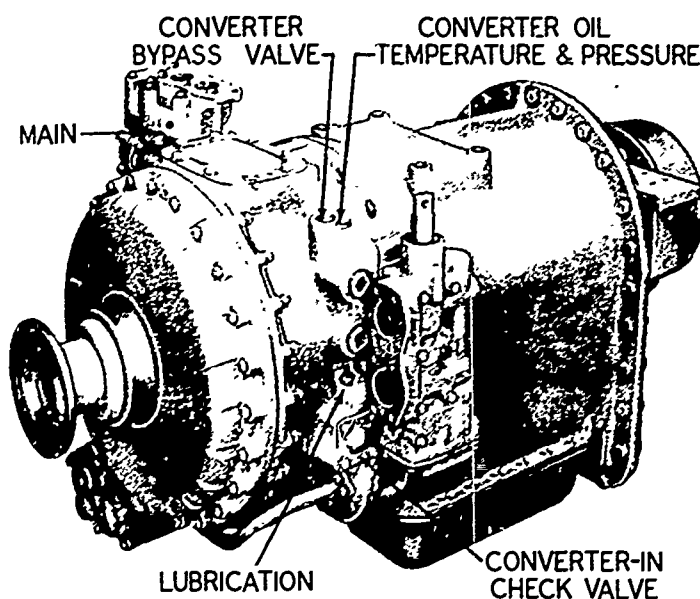

Fig. 1 Oil and temperature check points
1. Disconnect the clutch pressure gage and install a master pressure gage. The check point is located on the forward face of the main regulator valve. See Figure 1.
CHECKING LUBE OIL PRESSURE -- The lube oil pressure is checked by removing the small square head pipe plug just above the converter "IN" check valve on the converter housing and installing a pressure gage; see Figure 1.
CHECKING OIL TEMPERATURE -- Maximum converter oil temperature is 250 F. This temperature reading can be taken from the converter oil temperature gage on the instrument panel. However, a master temperature gage can be installed in place of the dash panel gage and a temperature reading taken; see Figure 1.
CONVERTER OUT PRESSURE -- The converter "OUT" pressure is checked by installing a pressure gage in the oil temperature port in the converter housing; see Figure 1. The pressure will vary from 30 psi minimum to 65 psi maximum at full throttle (top speed).
1. Main oil pressure check point is located on the front side of main pressure regulator valve, which is mounted to the top of the converter housing; see Figure 1. The dash panel clutch pressure gage sending unit is installed at this point. When checking main pressure, it is good practice to disconnect the dash panel gage and install a master gage.
2. Converter temperature check point is located on the left side of the converter housing, just above the cooler inlet and outlet lines; see Figures 1 and 4.